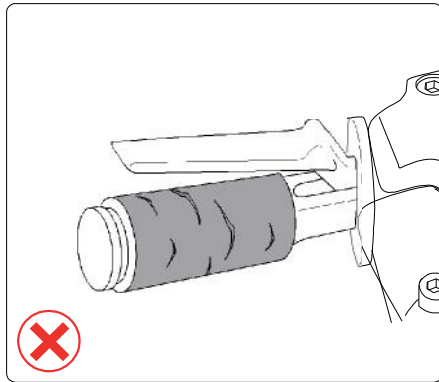

FIG1
5. Check handle grips and replace if required. (FIG1 needs replacement)(FIG2 suitable)